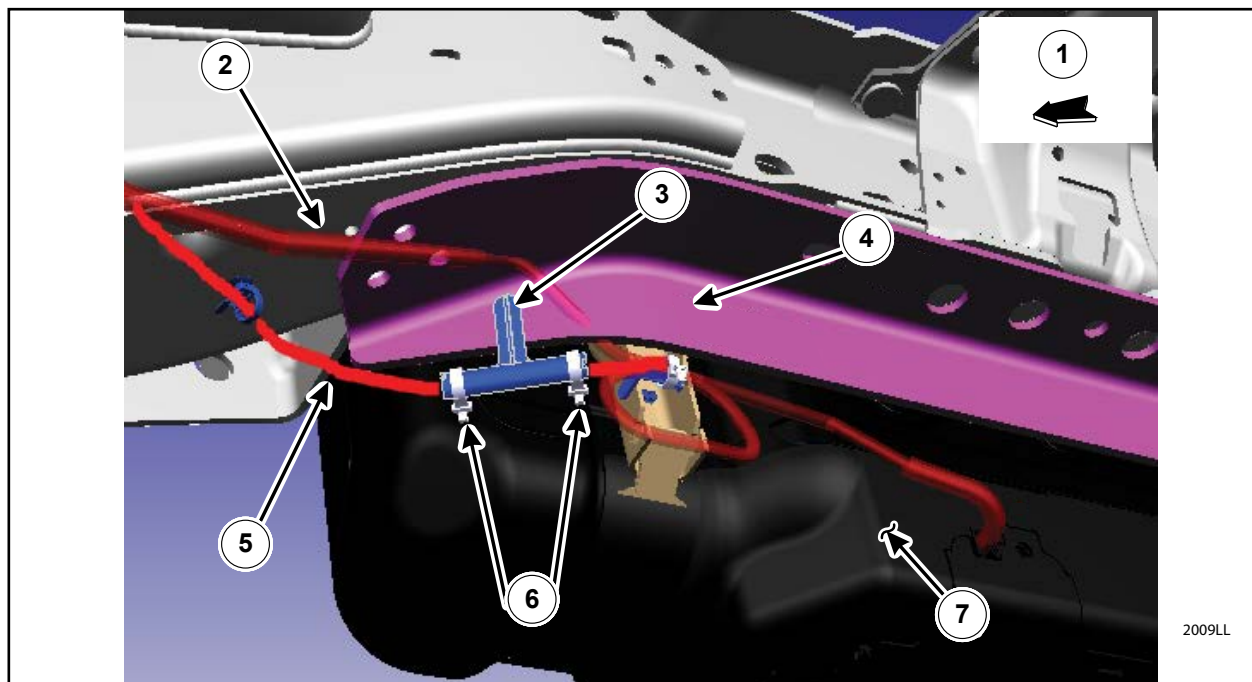

FIGURE 18
2. Once the RH side lower bracket has been installed, install the supplied T clip to the lower bracket and route the DEF pressure line toward the T clip and attach the T clip to the DEF pressure line with two (2) of the supplied zip ties as shown in Figure 18.
NOTE: Figure 18 shows the different T clip locations for between the regular cab vehicles and Crew and Super Cab vehicles. Holes are pre drilled on bracket for T clip, will need to drill new hole for routing clip.